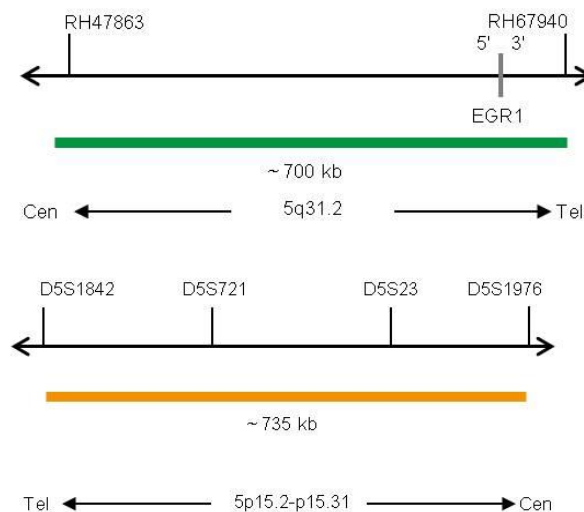

Fig. 1: Top: SPEC EGR1 Probe Map (not to scale); Bottom: SPEC D5S23,D5S721 Probe map (not to scale)
- ZyGreen (excitation 503 nm/emission 528 nm) labeled polynucleotides (~10 ng/μl), which target sequences mapping in 5q31.2* (chr5:137,190,679-137,892,461) harboring the EGR1 gene region (see Fig. 1).
- ZyOrange (excitation 547 nm/emission 572 nm) labeled polynucleotides (~4.5 ng/μl), which target sequences mapping in 5p15.2-p15.31* (chr5:9,233,775-9,967,465) harboring the D5S23,D5S721 locus (see Fig. 1).